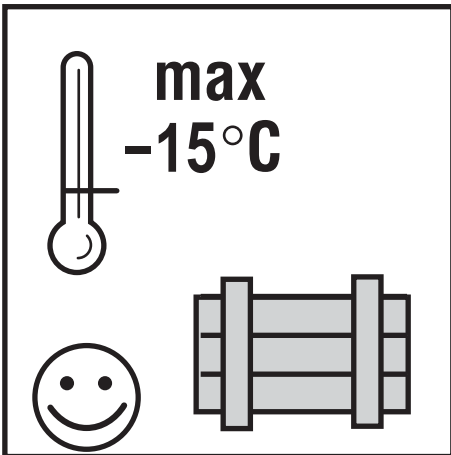

Fig.: 8
- Storage temperature with original motor filling up to -15° C, with water filling frost-free (fig. 8)